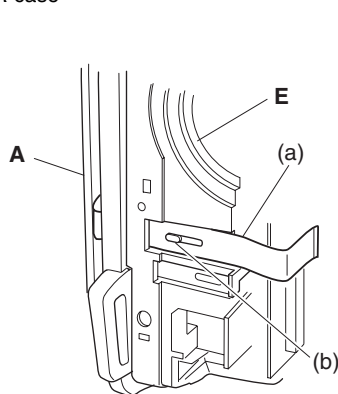

Fig. 4-2b
- When reinstalling the disc cover, take care with the wiring of flat cable (a). (Fig. 4-2b)